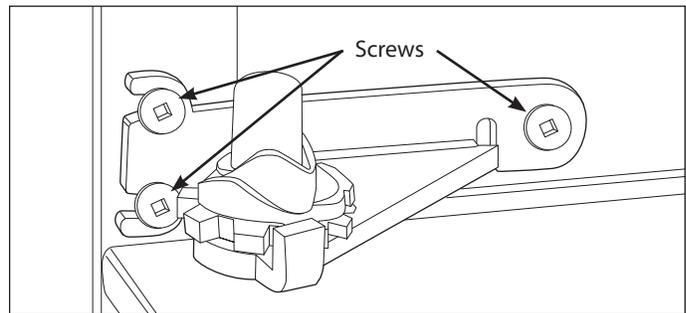

Figure 6-19.
5. Unscrew the three (3) lower hinge screws and hinge if necessary. (See Figure 6-19)